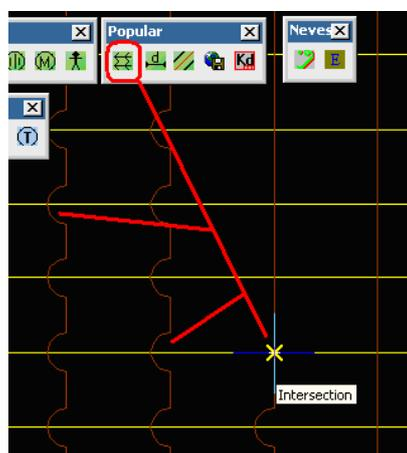

Figure 16
- Figure 16 : Cutting line and junction point.